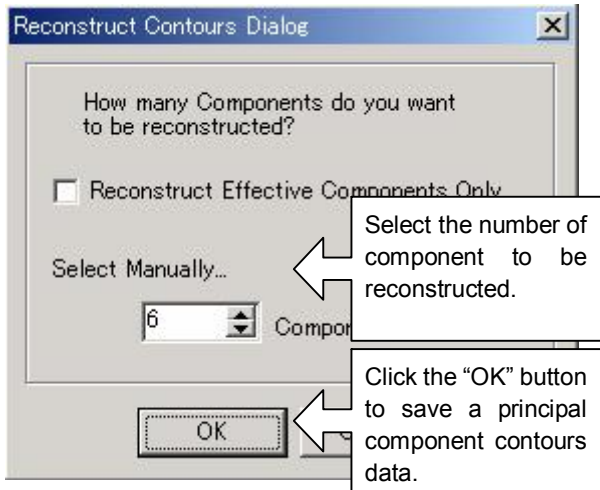

Fig. 32
31. Select the number of components to be reconstructed through the "Reconstruct Contours Dialog" (Fig. 32). Click the "OK" button, and a save dialog will appear. Input the name of a principal component contours file and click "Save". After that, "PrinPrint" will be automatically executed to display the result and the contours are displayed in a preview form for printing (Fig. 33). If "PrinPrint" cannot be automatically executed, start "PrinPrint" with double clicking the "PrinComp" icon and open the principal component contours file by selecting "Open" from "Files" menu.